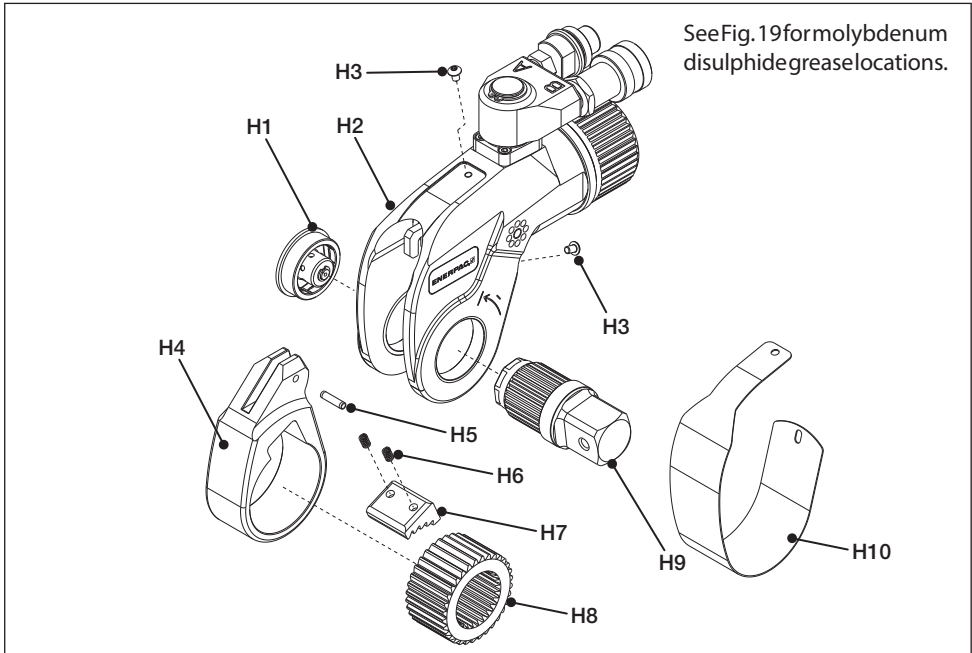

Fig. 18
(Fig. 18, 19 and 20)
**NOTICE** Be sure that the ratchet lever, drive shoe, ratchet and ratchet lever pin are correctly installed in the following step. Failure to install these parts correctly will result in component damage. Refer to figures 18 and 20.
- Housing (Fig. 18 & 22 item H2)
- Ratchet Lever (Fig. 18 & 22, item H4)
- Drive Shoe (Fig. 18, item H7)
- Ratchet (Fig. 18, item H8)
- Drive Shaft (Fig. 18, item H9)